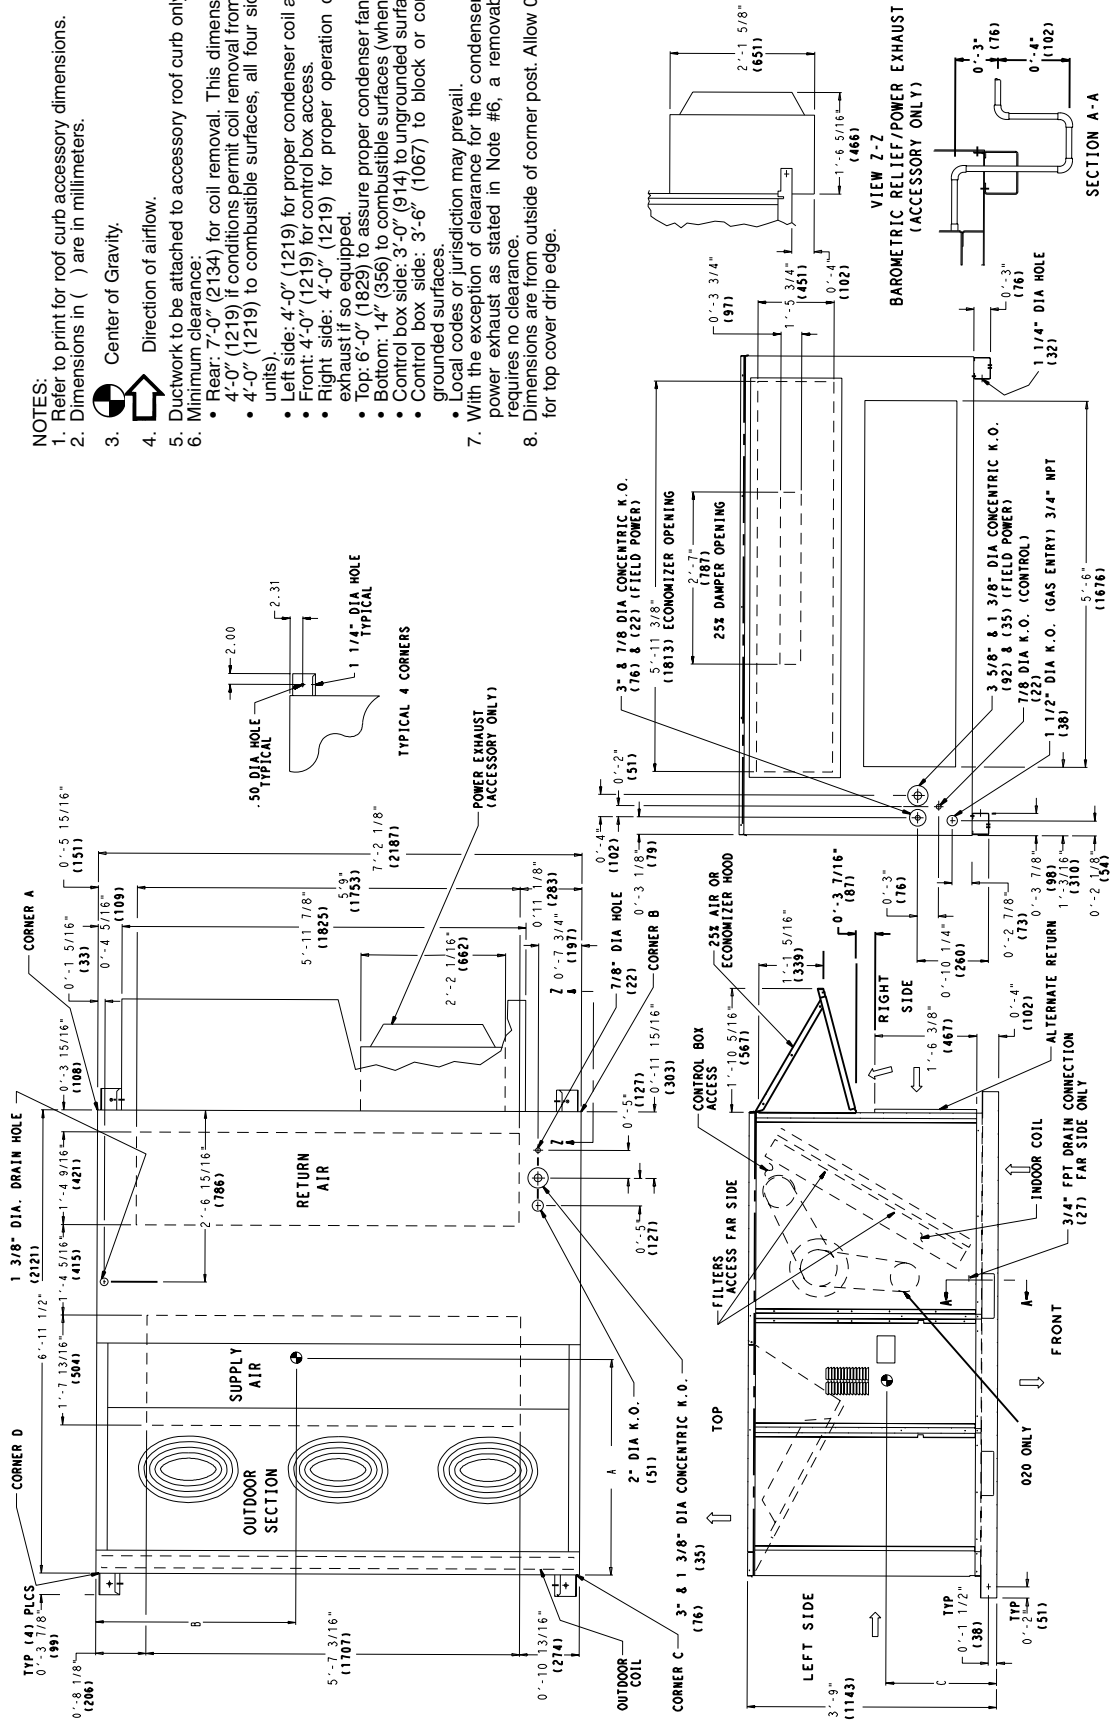

Fig. 4 — Base Unit Dimensions; 48TJ016,020
POSITIONING — Maintain clearance, per Fig. 4 and 5, around and above unit to provide minimum distance from combustible materials, proper airflow, and service access.
2. Refer to Fig. 4 and 5 for unit operating weights.